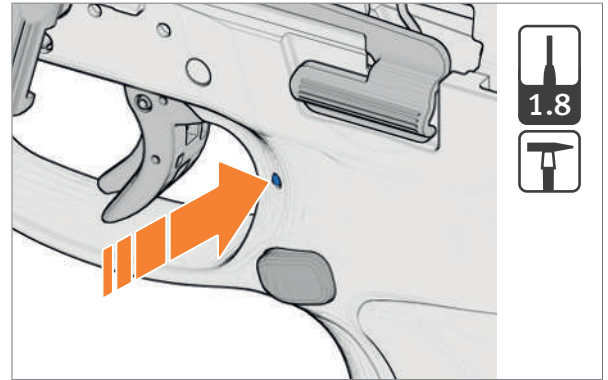

Fig. 32: Driving out clamping sleeve
2. In case of weapons with clamping sleeve for magazine catch: Drive out clamping sleeve with pin punch (Fig. 32).